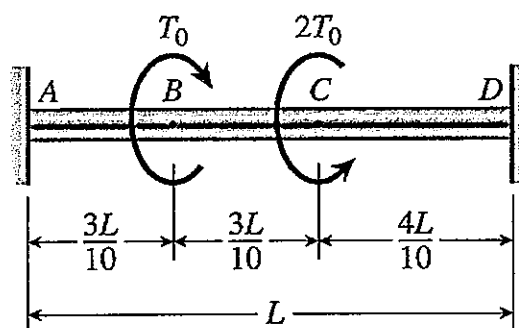

Fig. 3
3. A solid circular bar $ABCD$ with fixed supports is subjected to two torques along the axial direction of the bar, namely, T_0 (turning into the paper) and $2T_0$ (turning out of the paper) at points B and C , respectively, as shown in Fig. 3. The solid bar has a modulus of elasticity E for its material and a uniform polar moment of inertia J for its cross section. Assume the bar remains linear elastic subjected to the applied torques. Determine: